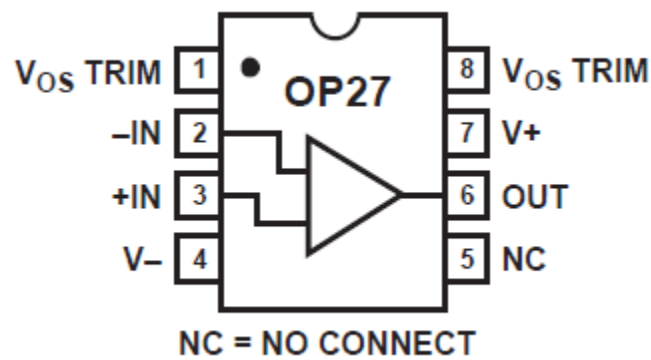

Figure A-4.
*The op-amp chip:* Study the chip layout of the OP27 op-amp shown in Figure A-4. (The uA741 has a slightly different pin-out, but in simulation that won't matter.) The standard procedure on DIP (dual in-line package) "chips" is to identify pin 1 with a notch in the end of the chip package. The notch always separates pin 1 from the last pin on the chip. Pin 2 is the inverting input. Pin 3 is the non-inverting input, and the amplifier output,  $V_O$ , is at pin 6. These three pins are the three terminals that normally appear in an op-amp circuit schematic diagram. The  $+V_{CC}$  and  $-V_{CC}$  connections (7 and 4) MUST be completed for the op-amp to work, although they usually are omitted from simple circuit schematics to improve clarity.